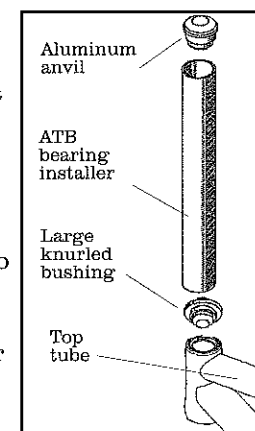

Fig. 33
7. Insert the **large knurled bushing** into the upper bearing (Fig. 33).